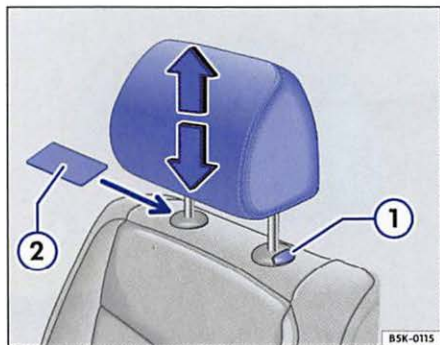

Fig. 37 Removing front head restraints.
- If necessary, slide a flat object such as a plastic card between the backrest cover and the cover cap of the head restraint guide rod $\Rightarrow$ fig. 37 (2) to unlock the head restraint.
- While pressing button (1), pull the head restraint out completely.